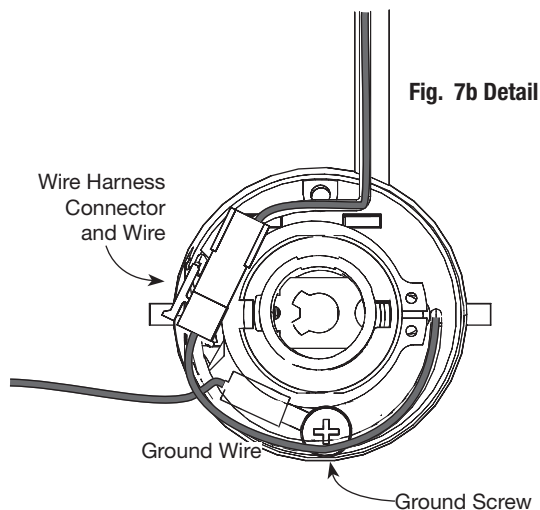

Fig. 7b Detail
- Route lock body harness and ground wire (Fig. 7b Detail).
- Run wires through slots in edges of spring cassette (Fig. 7b)